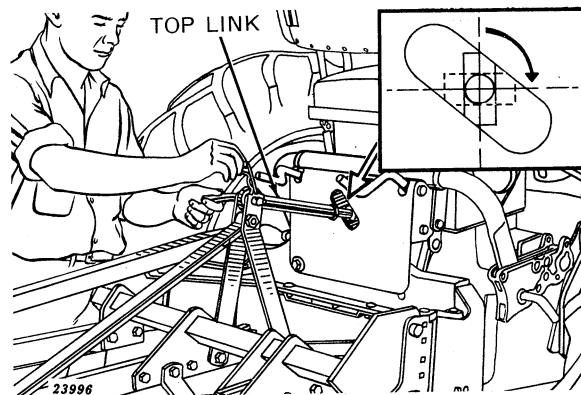

Figure 12—Top Link
4. Swing plow to left and install top link (Figure 12). Tighten jam nut securely.